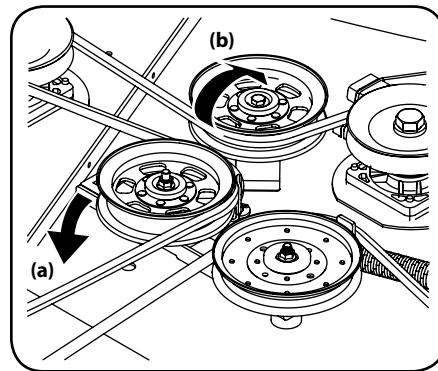

Figure 4-15
- b. Working from the middle of the tractor, pivot the idler bracket and movable idler pulley rearward away from the backside of the 'V' belt (a) just far enough to lift the belt up and over the idler pulley (b). See Figure 4-15.